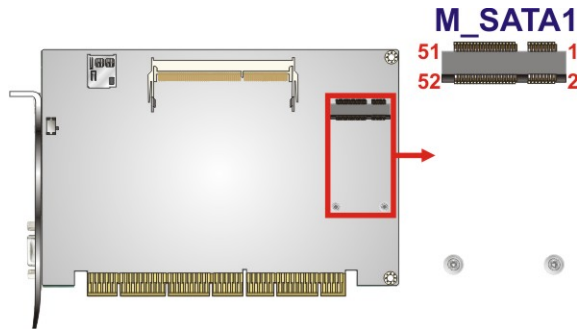

Figure 3-17: mSATA Slot Location
- CN Location:** See **Figure 3-17**